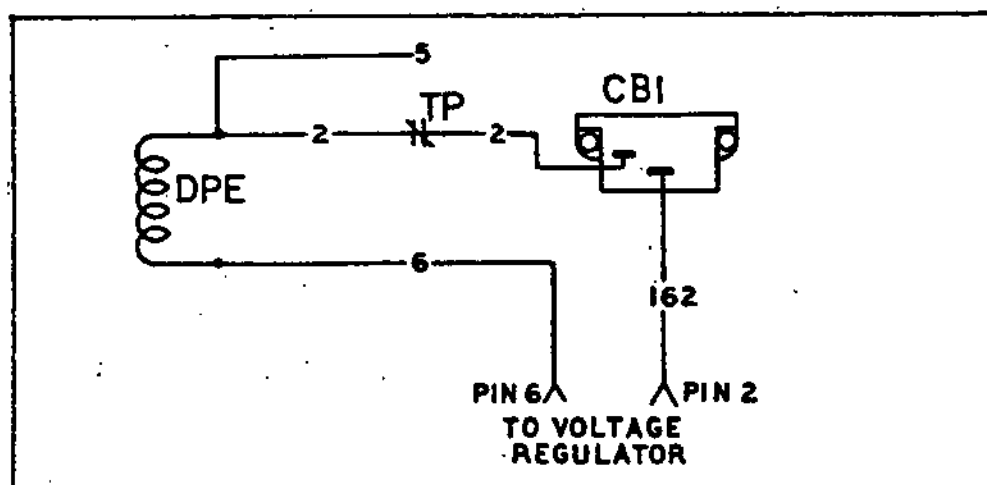

Figure 5.2-C. The DPE (Excitation) Circuit
5.2.15- CHECK FIELD CIRCUIT BREAKER (Figure 5.2-C)
5.2.16- CHECK DPE WINDING (Figure 5.2-C)